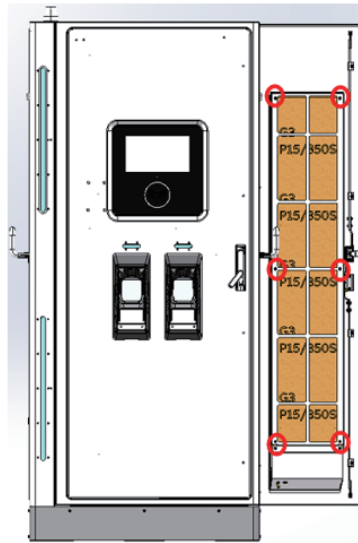

Figure 2
2. Open the door and remove the screws on the filter plate, then remove it, refer to figure 2.